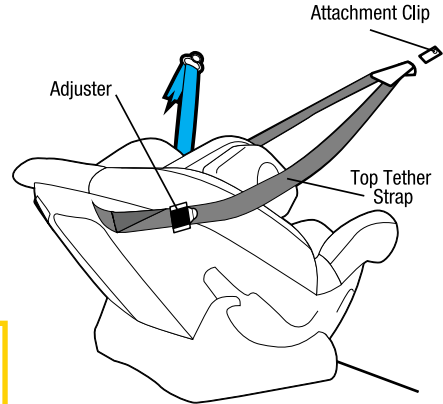

Figure 6
Step 6: Locate the adjuster at the side of the restraint and secure. (refer Figure 6).